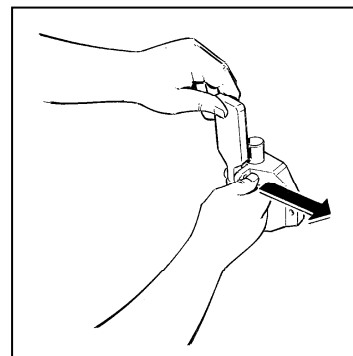
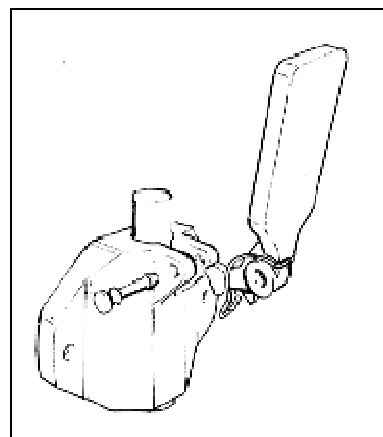

Fig. 9
Fig. 10
- **D**ismantle the tap from the flange by removing the fixing pin (fig. 9) so that you can remove the lever and its spring and release the piston from its housing (fig. 10).